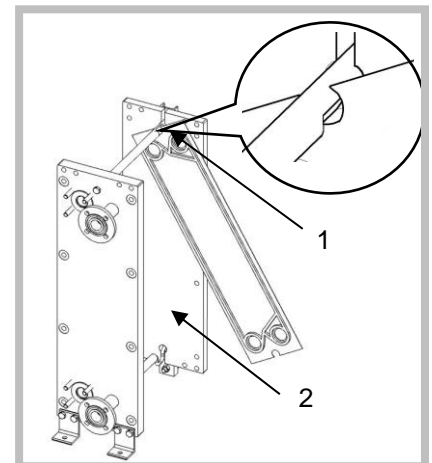

Figure 34
2. Guide the heat exchanger plates individually into the support rod area at the support that exhibits a recess [1]. In this area, the heat exchanger plates can, on account of the construction of the lower support rod, be swung out laterally and removed (downwards) from the frame (Figure 34).